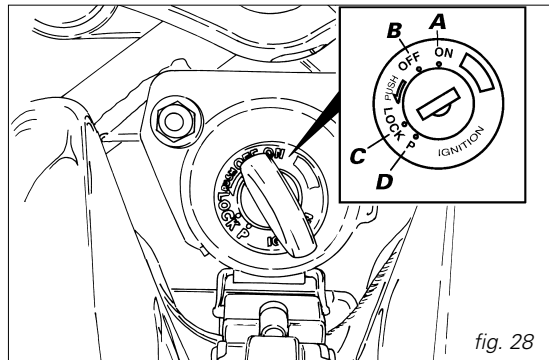

fig. 28
1) Move the ignition key to **ON** (fig. 28). Make sure both the green light **N** and the red light  on the instrument panel come on.